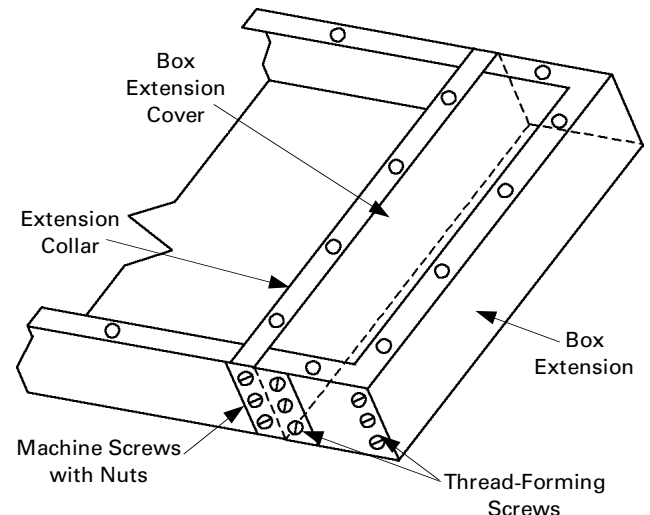

Figure 2. Box extension attached to the panel.
3. Slide the extension collar over the trough and align the holes in the collar, trough, and endwall, as shown in Figure 2.